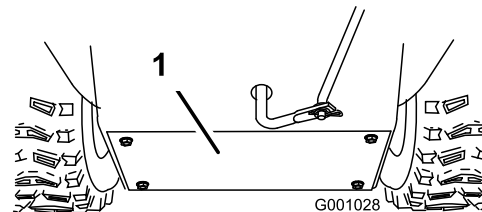

Figure 54
- Remove the back cover (Figure 54).